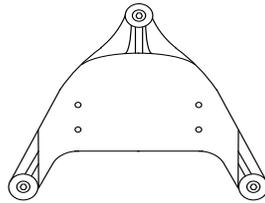
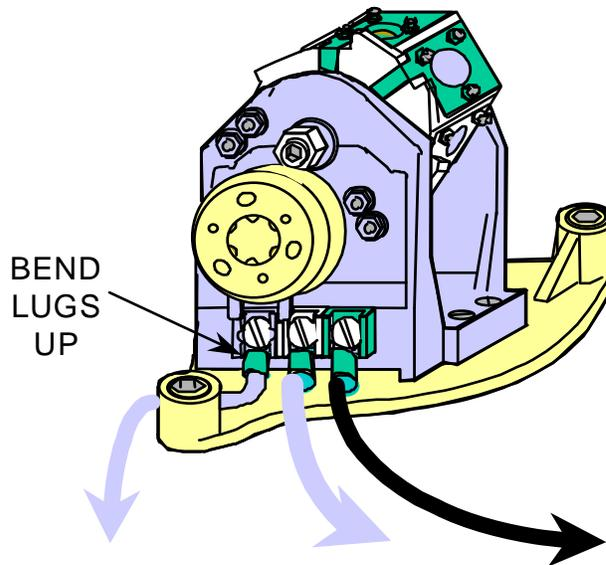

Figure 3-40
Figure 3-41
- (9) Looking down into the beacon, remove the three capscrews securing the lampchanger plate (Figure 3-40) to the flasher housing. Remove the lampchanger plate.
- (10) If not using a flasher, make up three wires, one black, one white and one blue each two feet long with lugs attached to **ONE** end and attach to the lampchanger. The wires should be 12 AWG with PVC or Teflon insulation. After securing the lugs, bend the lugs out 90 degrees from the terminals.
- (11) Orient the lampchanger on the Lampchanger Plate so that the terminal strip faces away from the opening in the plate (The lampchanger may be installed with the terminal strip over the opening when no flasher is used).
- (12) Secure the lampchanger to the plate using 10-32 machine screws and nuts, as shown in Figure 3-41. Go to paragraph (16).